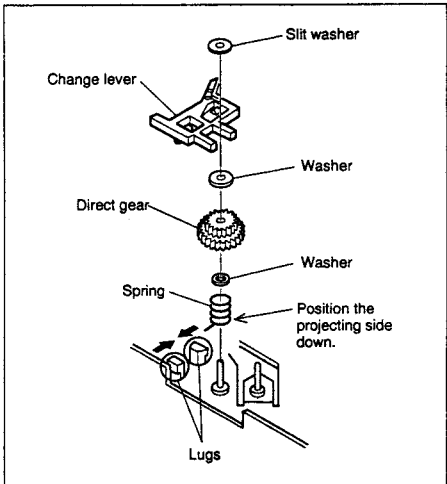

Fig. 2-2-20
- (1) Release two lugs of the rotary encoder guide in the arrow-indicated direction and remove the change lever.
- (2) Remove the slit washer retaining the direct gear and remove the latter. Take care of the two washers and one spring on and under the direct gear. (See Fig.2-2-20)